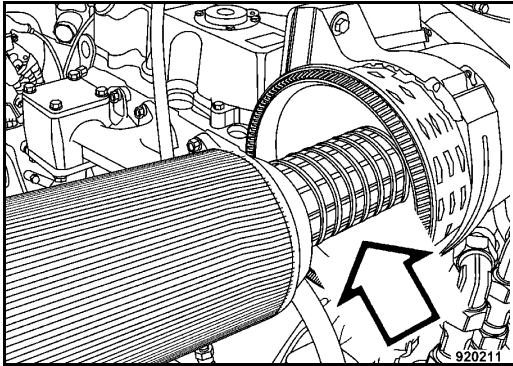

Fig. 146
- Pull the safety element (Fig. 146) out by turning it lightly.